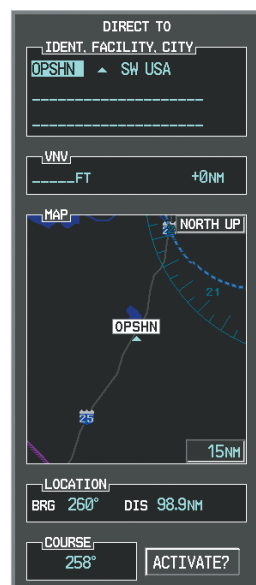

Figure 5-117 Direct To OPSHN
- Press the **Direct-to** (D➤) Key. The Direct-to Window is now displayed as shown in Figure 5-117.